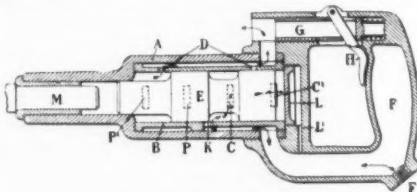

FIG. 1. ROSS HAMMER.
**"Ross" Hammer.**—Fig. 1 shows in section a "Ross" hammer, in which the striking piston becomes the valve to control the admission and exhaust of the air.
| " ROSS "         | Fig. 1.             | ins.              | ins.             | ozs.              | Blows per min.   | cub. ft. per min.           | lbs.              |